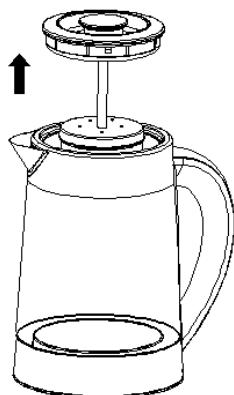

Fig. 6
1. For burning the water, press the lid opening button shown in Fig. 6; the lid will open if this button bounces and then you can remove it. If cooking the tea, you can directly remove the lid (shown in Fig. 7) to place the tea into the tea bag and then add the appropriate water to the level between MIN and MAX shown by the kettle water gauge.